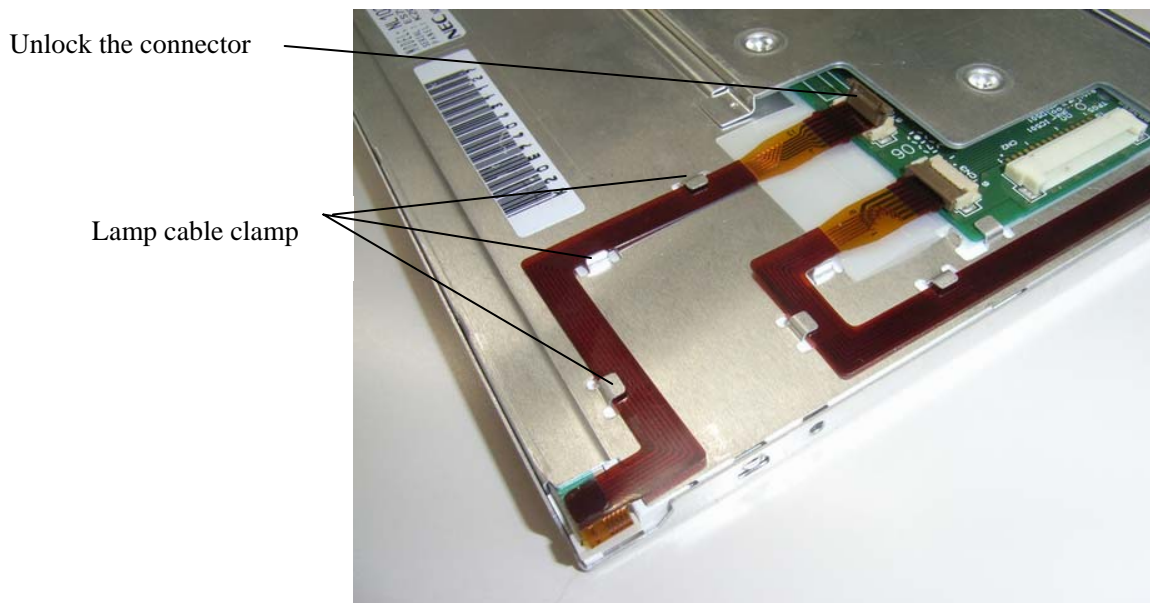

Fig.2
- Unlock the connector and then remove the lamp cable (FPC) from the connector. (Fig.2)